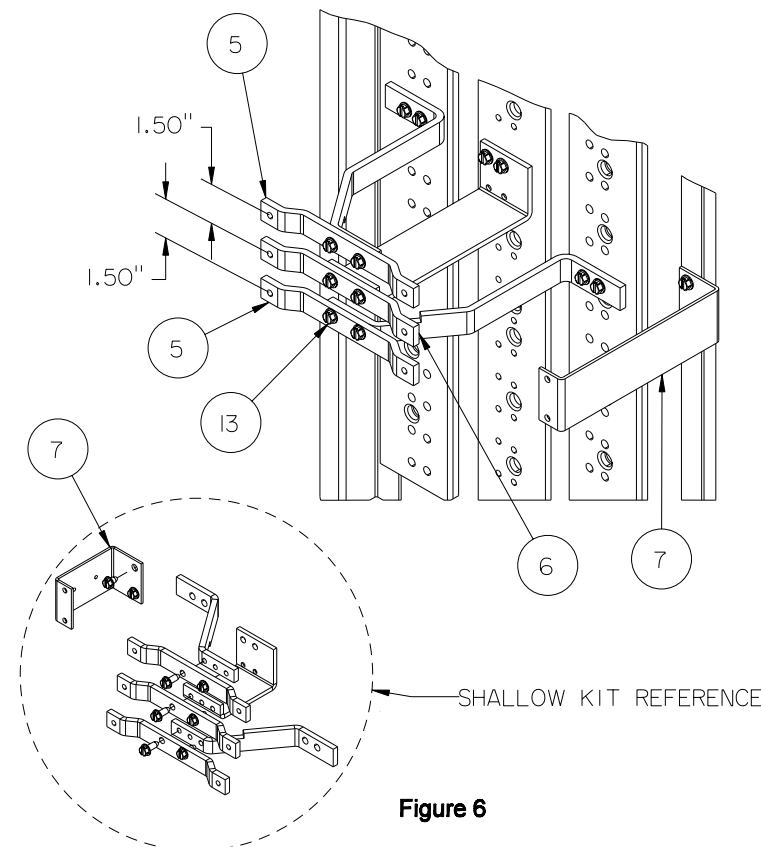

Figure 6
7. Reference fig. 6 - Install the link bars (items 5 and 6). Insert two 1/4-20 X 5/8" screws (item 13) through the two 0.281" diameter holes in the B link bar (item 6) and into the two 0.228" diameter holes in the B  $\phi$  strap and tighten. Repeat this step to mount the two A/C link bars (item 5) to the A  $\phi$  and C  $\phi$  straps, orienting the link bars as shown so as to have 1.50" vertically between centers of the bars. Torque all screws as specified on the rear of the dead front.